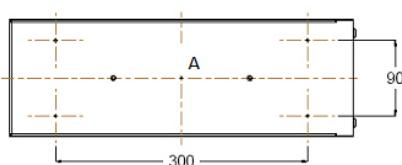
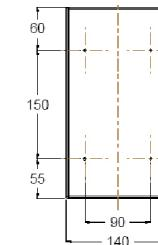

Figure 1a
Figure 1c
6. Determine the mounting configuration and position, ie: ceiling, wall or cantilever mounting. Drill 4 x 9mm diameter mounting holes at the positions as shown in figure 1a, 1b or 1c depending on mounting configuration. All drilling locations for mounting holes are indicated on the metal housing by dimple features. Cable entry hole for wall mounting must be drilled through the polycarbonate panel and cantilever mounting is drilled to suit anywhere on the face (figure 1c), cable entry hole for ceiling mount must be drilled at the dimple at the centre of the top face, marked A as shown in figure 1a. Due to the wide variety of building construction materials, mounting screws are not provided with the unit. Use appropriate hardware to suit the individual installation and structural support needs of the unit. Remove the terminal block cover from the terminal block before mounting the housing to the wall or ceiling.